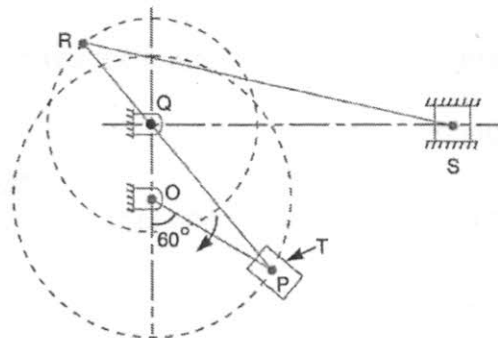

fig.2(b)
- b) Fig. 2(b) shows the whit-worth quick return mechanism used in reciprocating machine tools. The various dimensions are: $OQ=100\text{mm}$, $OP=200\text{mm}$, $RQ=150\text{mm}$, $RS=500\text{mm}$. The crank OP makes an angle of 60° with the vertical. Determine the velocity of slider S when the crank rotates at a speed of 120rpm CW. Also find the angular velocity of link RS and the velocity of the sliding block T on the slotted lever QT .